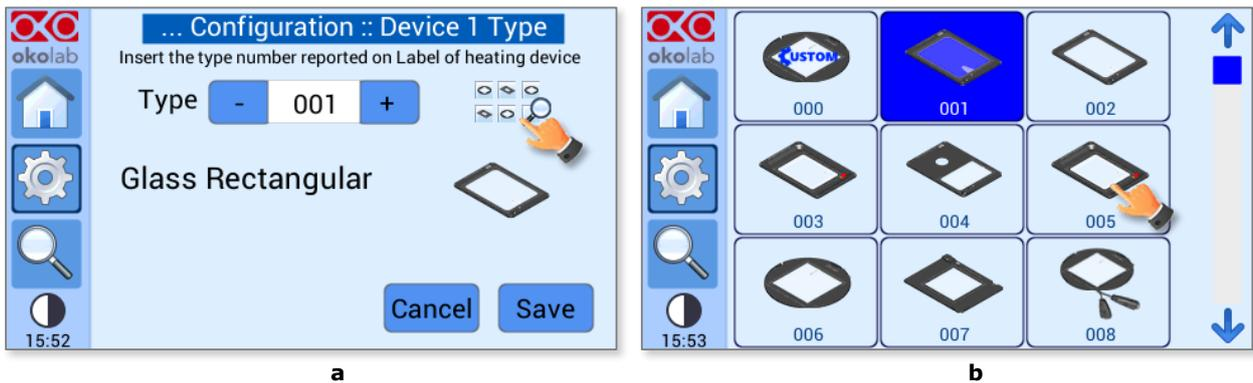

Figure 21. Device Type selection (a -b).
- the icon  (see Figure 21 a). Select the proper heating devices using the arrows, see Figure 21 b)